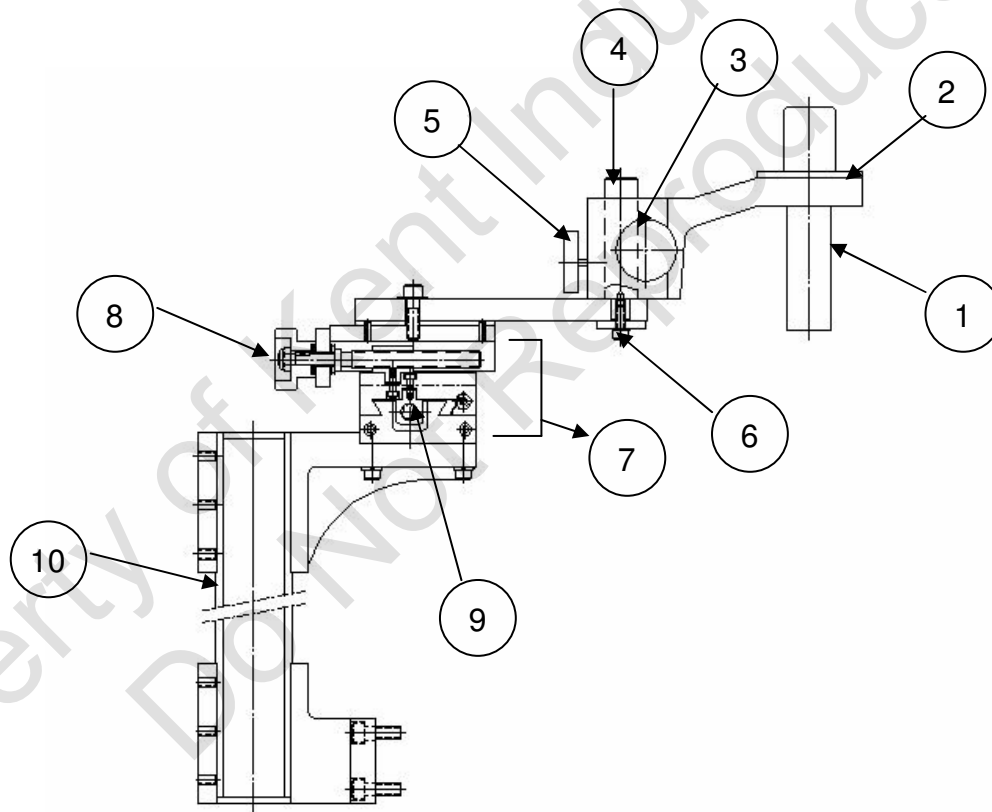

Fig 6-11 The whole structure of inspection system
Refer to Fig 6-11----the mechanism of the inspecting system.
The parts of Fig 6-11 is described below:
2. Put part 4 (stepped column) into part 2 (holder) and then fasten part 6 (bolt) in Fig 6-11.
1. Set the lens of inspecting system to be above the tool by moving the part 7 of Fig 6-11.
The adjusting knobs could be referred to part 8 and 9 of Fig 6-11.